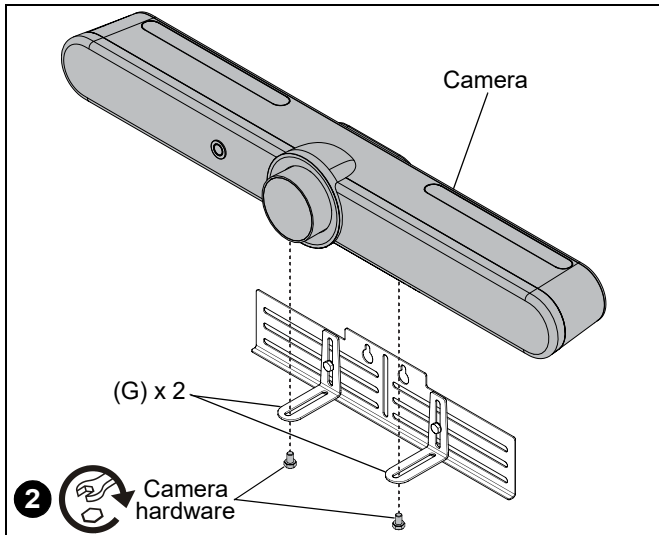

Figure 17
2. Install the camera to the camera brackets (G) using the hardware included with the camera. (See Figure 17)